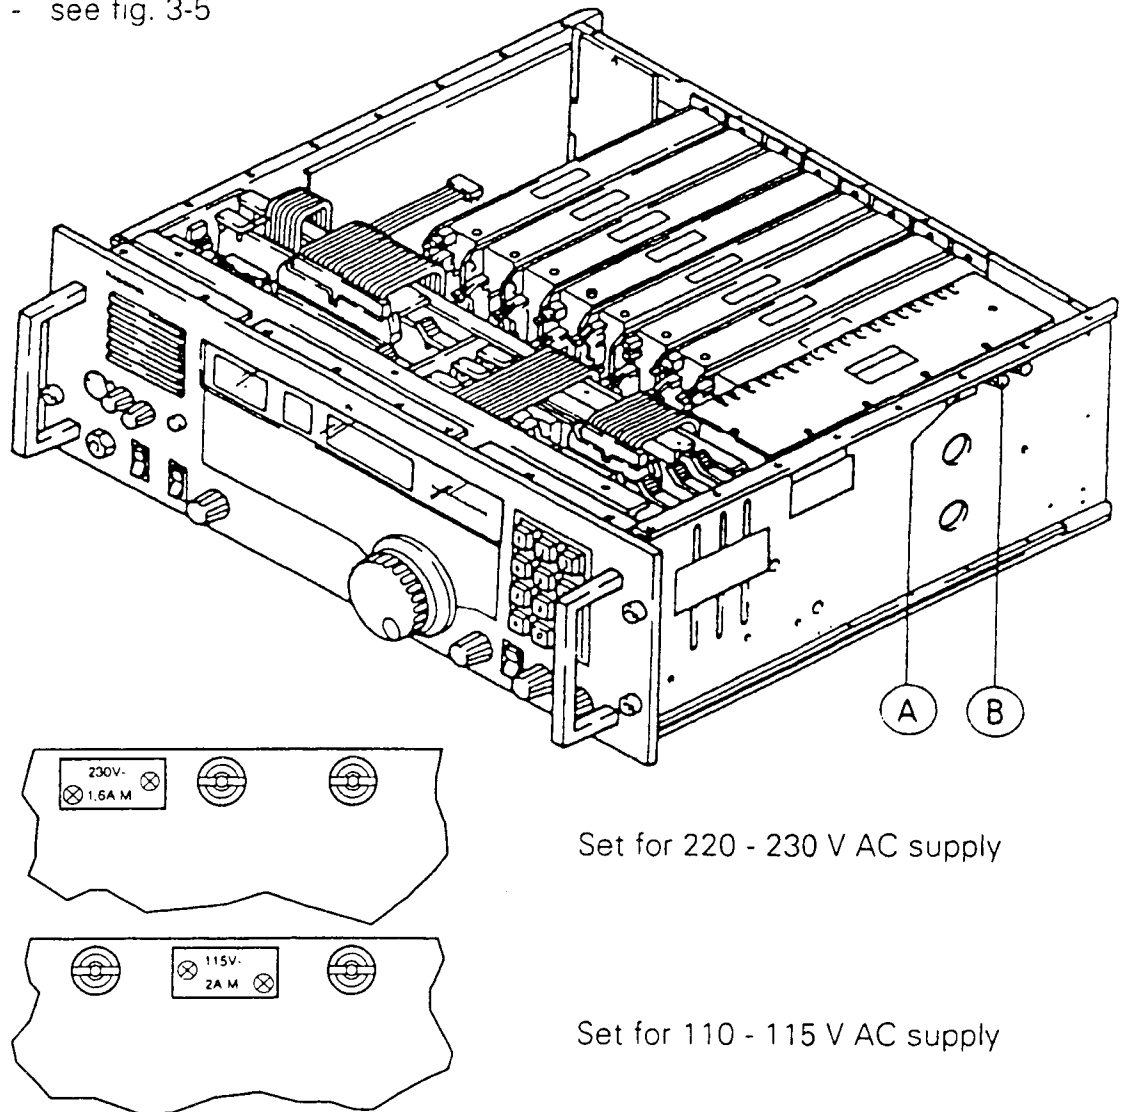

Fig. 3-5 Fuses for 115/230 V AC
Before connecting the receiver to mains check the set mains voltage of the receiver see fig. 3-5.
- see fig. 3-5